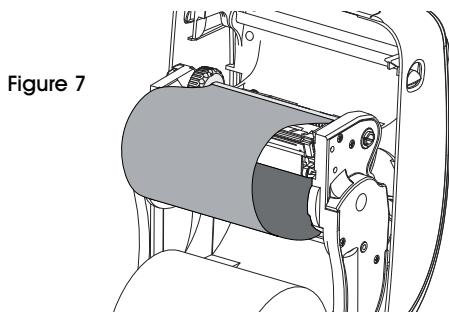

Figure 7
- Pull the transfer ribbon's leader off the roll and attach its adhesive strip to the empty ribbon core on the supply spindle. Center the ribbon on the ribbon core. (See Figure 7)